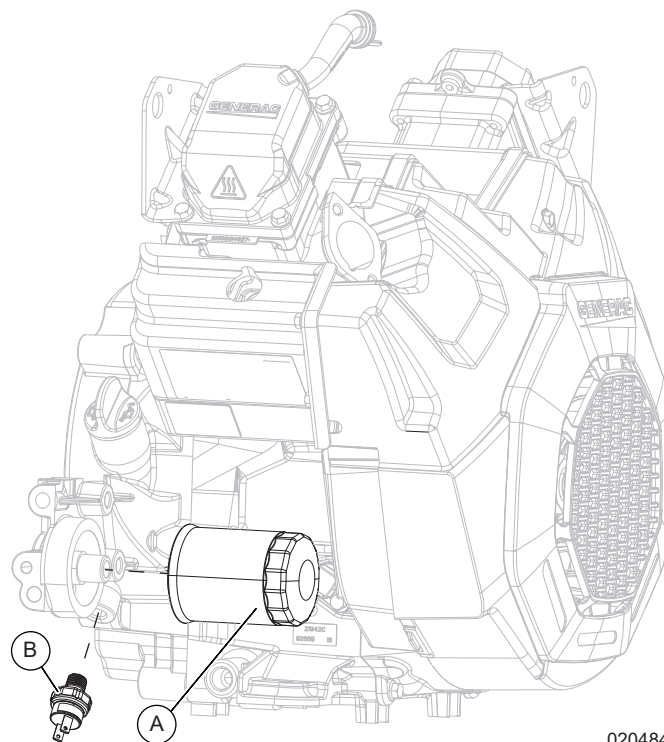

Figure 12-17. Install Oil Filter and Oil Pressure Switch
1. See Figure 12-17. Apply small amount of clean engine oil to gasket on new oil filter (A).